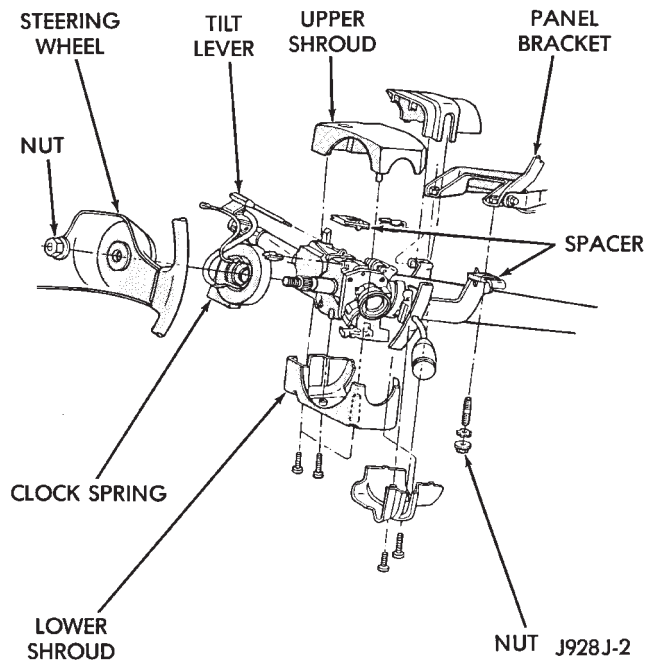

Fig. 1 Shroud Removal/Installation—Typical
- (1) Disconnect negative battery cable from battery.
- (2) If vehicle has a tilt column, remove tilt lever by turning it counterclockwise.
- (3) Remove upper and lower covers from steering column (Fig. 1).